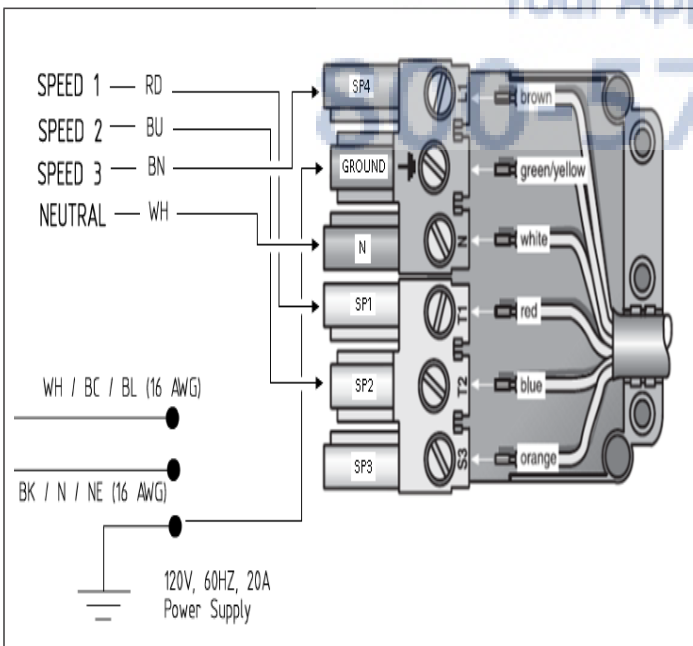

Figure 23: Wiring the Hood with an Inline Blower
4. Connect the power supply wires to the hood wires in the following order: black to black, white to white, and green wire to green ground screw on chassis. Use spring type wire nuts supplied. (Lost or missing wire nuts should only be replaced with: Spring type wire nuts, rated for a minimum of (2) # 18ga wires and maximum of (4) #14ga wires, UL & CSA rated to 600V and 302° F/ 150° C).
6. Run (5) wires (#14 AWG) in 1/2" (13mm) conduit from the inline blower to the second conduit connector.
7. Connect the inline blower to the pigtail wires (Step 6) as per Figure 23. Connect the inline blower green (ground) wire to the ground screw in the junction box.